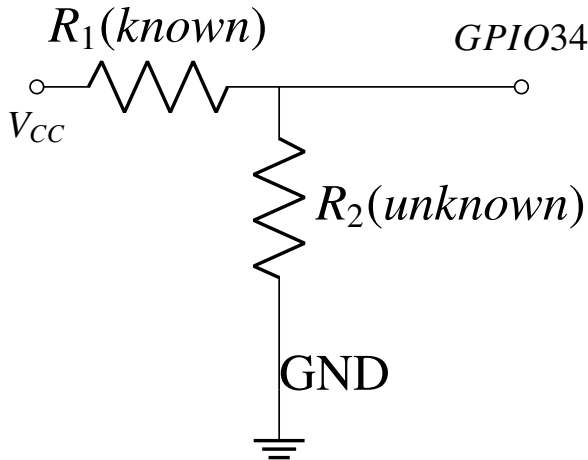

Fig. 3.3.1: Voltage Divider
- 3.3. Let R_1 be the known resistor and R_2 be the unknown resistor. Connect R_1 and R_2 in series such that R_1 is connected to V_{cc} and R_2 is connected to GND. Refer to Fig. 3.3.1
4.4. The Ohm meter in this manual works on the principle of the voltage divider shown in Fig. 3.3.1.